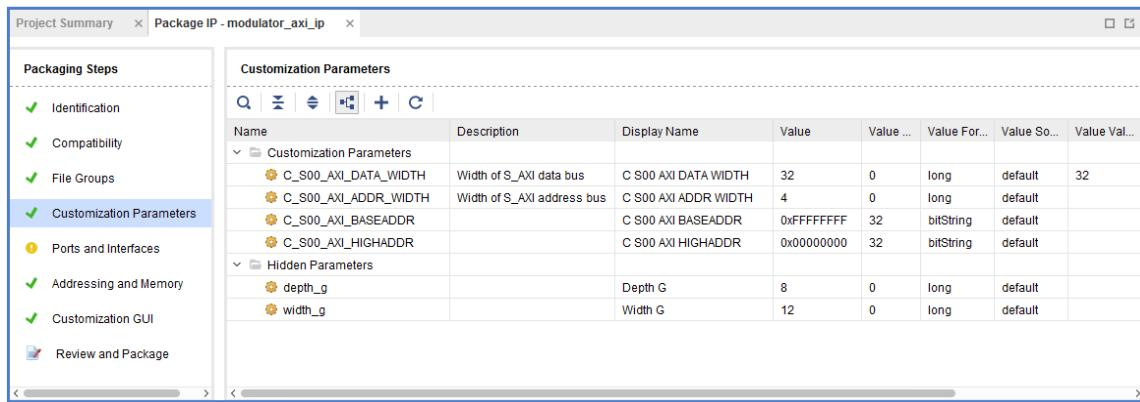

Figure 12.85: Customization Parameters window after merging changes from Customization Parameters Wizard
28. In the **Package IP - modulator_axi.ip** window, open **Customization Parameters** section, and click **Merge changes from Customization Parameters Wizard** link. After merging changes from Customization Parameters Wizard, Customization Parameters window should look like as it is show on the Figure 12.85.